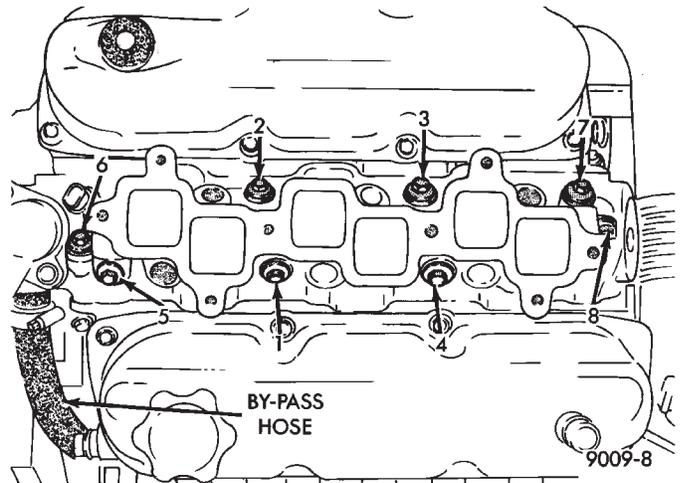

Fig. 15 Intake Manifold Removal and Installation
(4) Install intake manifold and (8) bolts and torque to 1 N·m (10 in. lbs.). Then retorque bolts to 22 N·m (200 in. lbs.) in sequence shown in (Fig. 15). Then retorque again to 22 N·m (200 in. lbs.). After intake manifold is in place, **inspect to make sure seals**